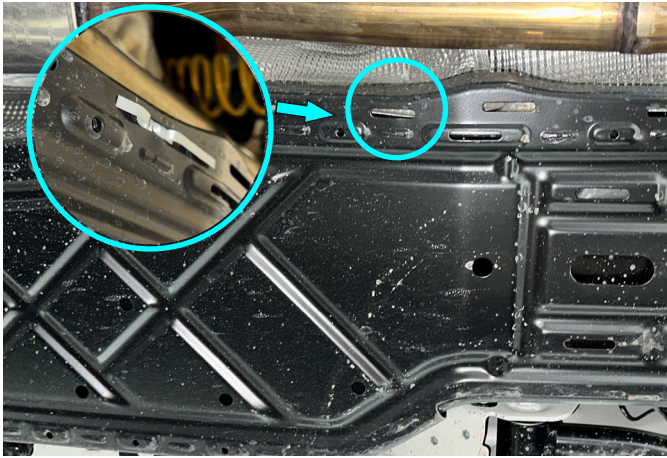

Fig. 1
1. Install M8 insert nut(item B) as shown in fig.1